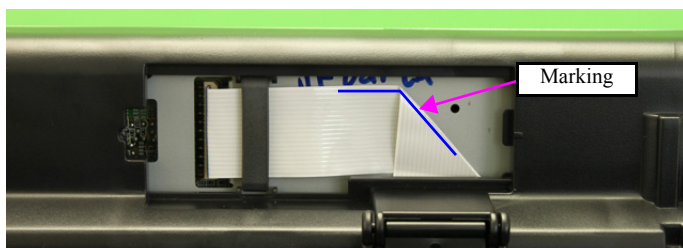

Figure 8-13. Routing the Panel FFC
- Fold the Panel FFC at the fold line, and route it through the marking on the Panel Shield Plate. (See Fig. 8-13 (p268).)